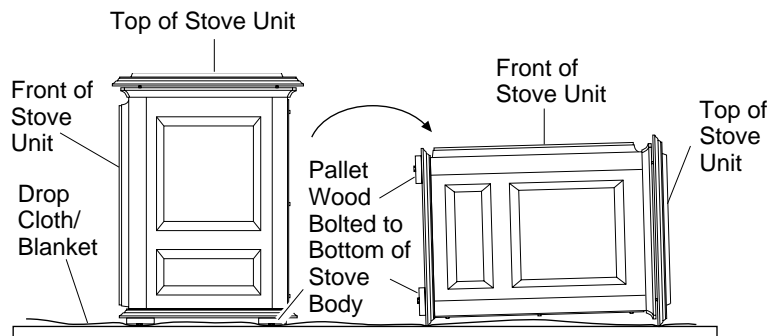

Figure 7 - Laying Down Stove On Side
- (1) - Hardware kit bag with fasteners
6. Carefully lay stove on back to attach bottom components to stove body (see Figure 7). Rest stove on drop cloth or blanket to avoid scratching stove edges.